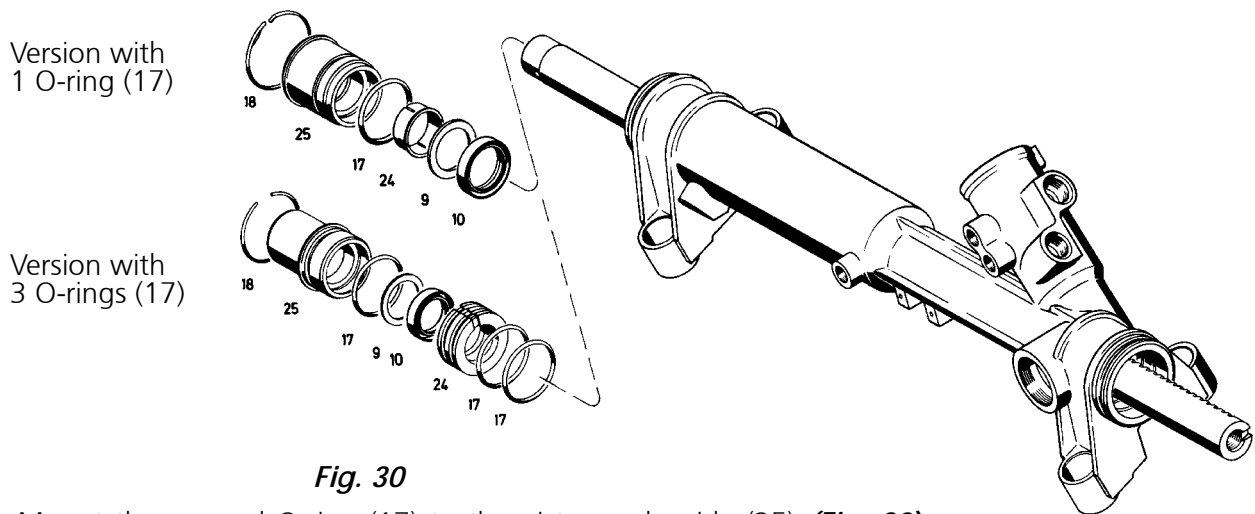

Fig. 30
With tool [15], insert the rack (3) into the housing (1), taking care not to damage any sealing elements (*Fig. 30*).
Mount the greased O-ring (17) to the piston rod guide (25) (**Fig. 30**).